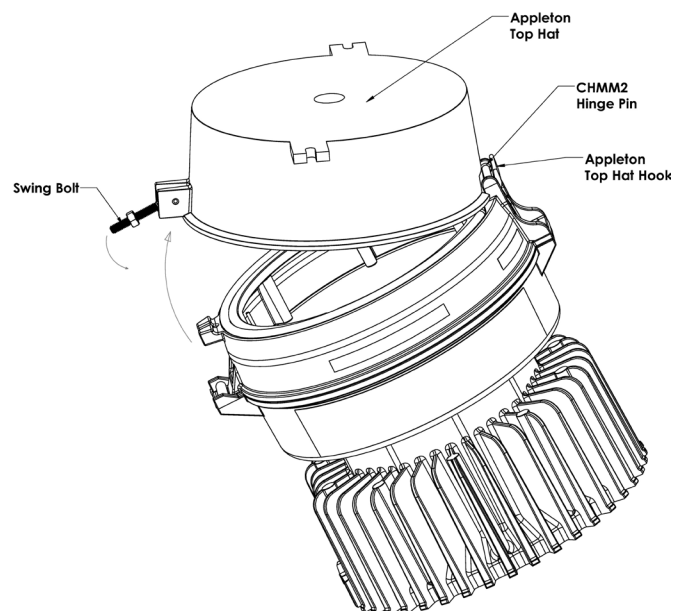

Figure 2
2. Remove the Appleton luminaire from the top hat by removing nut of swing bolt (Figure 2) and disconnect supply and ground wires. Inspect the Appleton top hat seal surfaces for damage. Inspect Appleton top hat hardware for any kind of corrosion. Inspect Appleton top hat for structural integrity
6. Hang the assembled luminaire and adapter from the Appleton top hat by capturing the adapter hinge pin in the Appleton top hat hook, as shown in Figure 2.